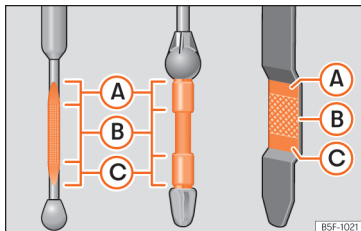

Fig. 282 Engine oil dipstick.
- Then pull it out once more and check the oil level **>>> Fig. 282**. Top up with engine oil if necessary.
- When the oil level reaches at least zone » **Fig. 282 B**, unscrew the engine oil filler cap carefully » **⚠**.
If the oil level is above area » **Fig. 282 A**, do not start the engine. This could result in damage to the engine and catalytic converter. Contact a specialised workshop.
The oil level must never be above zone » **Fig. 282 A**. Otherwise oil can be drawn in through the crankcase breather and leak into the atmosphere via the exhaust system.